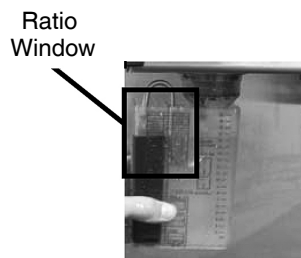

Figure 6.
6. In one continuous pour, fill the cup until both the water and syrup are within the ratio window (Figure 6)